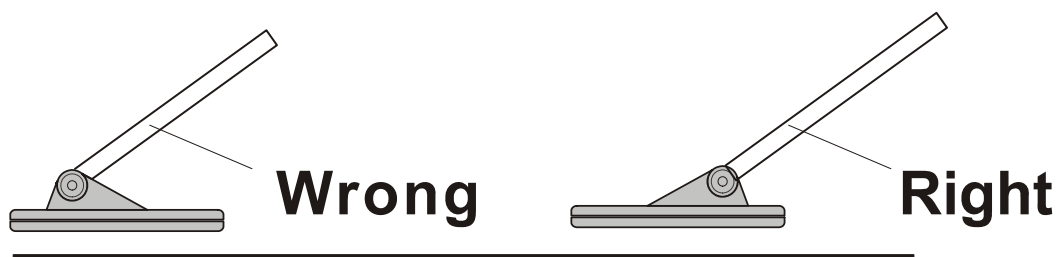

Figure.2
2. Loosen the knob at the search coil's end, adjust the search coil to the desired angle so that it is parallel with the ground. Please note not to mistake the search coil position. (Figure.2)